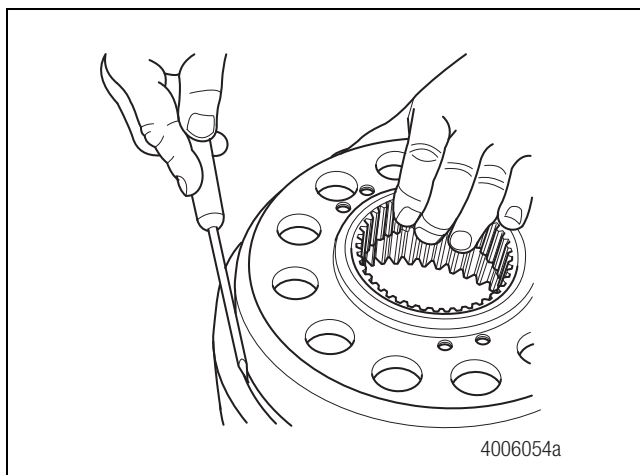

Figure 3.12
3. If necessary, remove the snap ring from the ring gear assembly to separate the ring gear from the ring gear carrier. Figure 3.12.